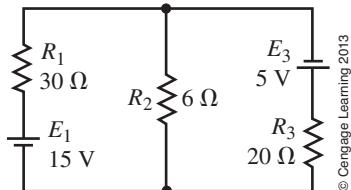

FIGURE 8-79
25. Write the mesh equations for the circuit shown in Figure 8-79 and solve for the loop currents.